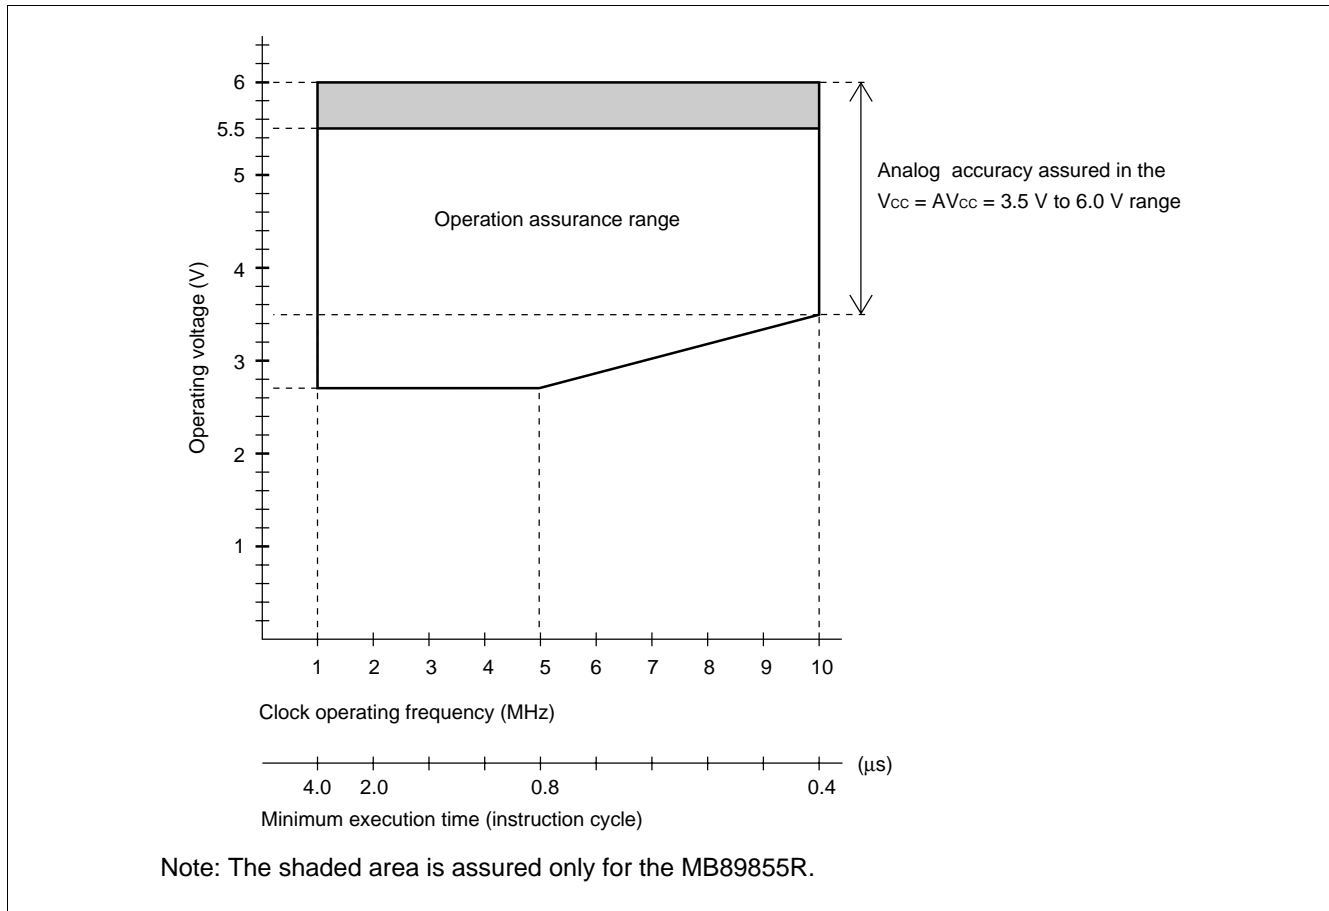

Figure 1 Operating Voltage vs. Clock Operating Frequency
*: These values vary with the operating frequency, instruction cycle, and analog assurance range. See Figure 1 and "5. A/D Converter Electrical Characteristics."